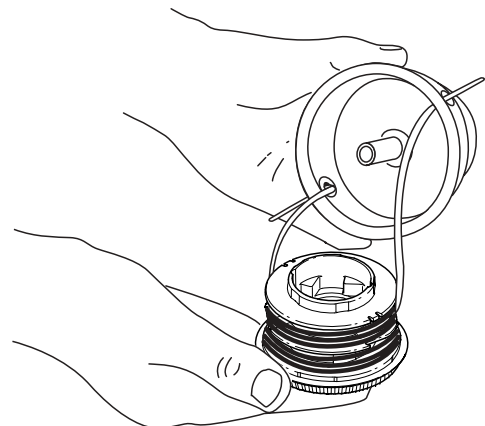

Fig. 21
3. Insert the ends of the prewound inner reel line into the outer spool eyelets (Fig. 21). Push the new inner reel, arrow side up, into the outer spool.
3. Pull the inner reel with existing line from the outer spool (Fig. 21).